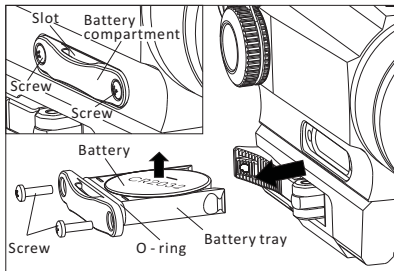

Fig 2-1
- 1) Removing the battery(Fig2-1):